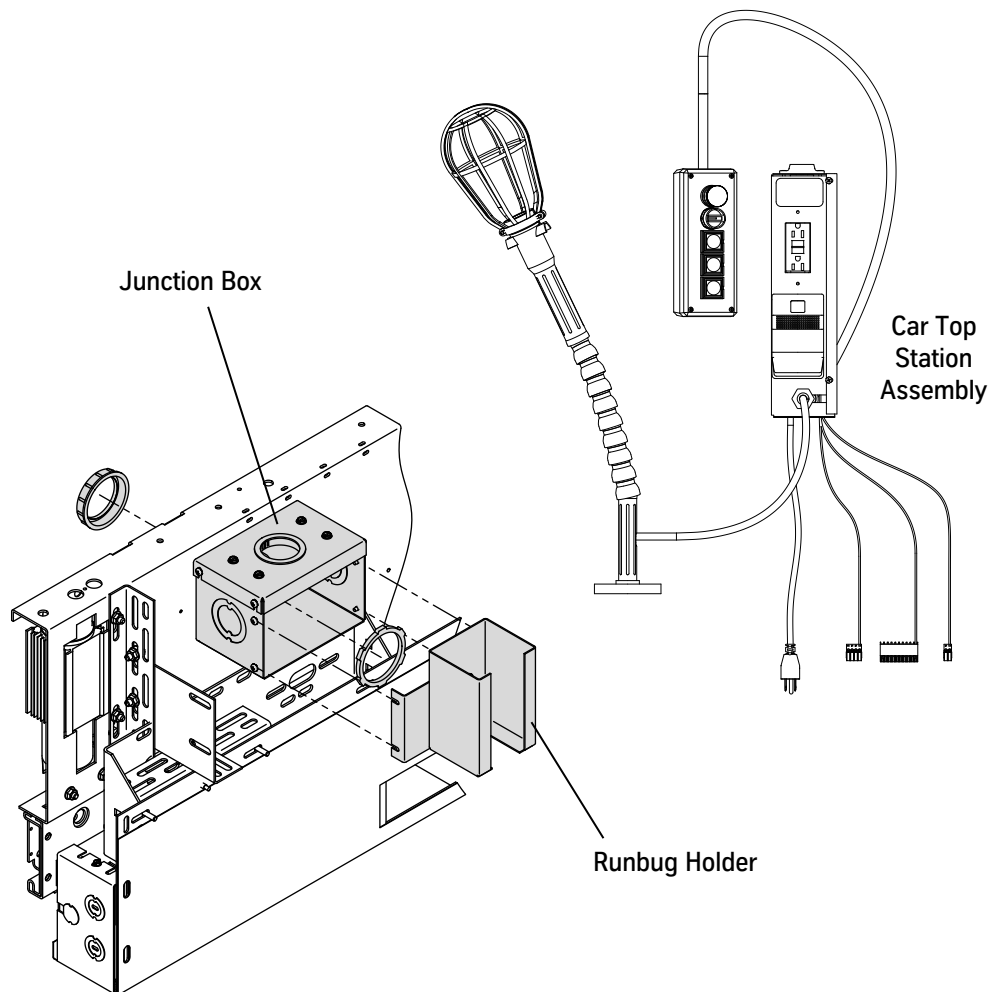

Figure 16 - Car Top Station Installation
16. Install the junction box to the door operator. See Figure 16.
19. Install the CTS to the top of the junction box. See Figure 16.